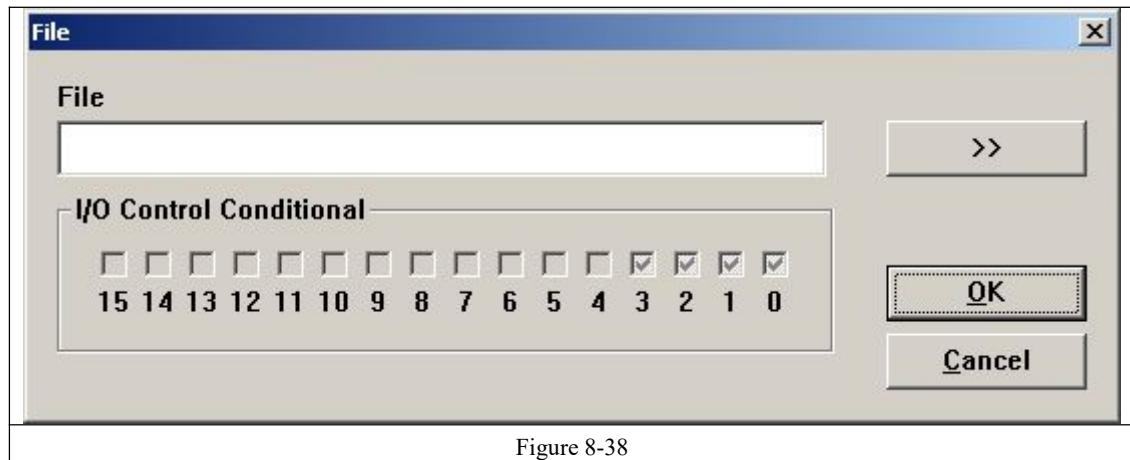

Figure 8-38
**Add:** Add .ezd files. The dialog box pops up as Figure 8-38 after click “add” button. Setting I/O control conditional for files, and automatically mark files when board accept the IO signal in mark status.
If must the accepting signals be pulse signals, should set IO port that doesn't show in figure 8-38 in start mark IO. For example, port 0-3 show in figure 8-38, should set other port in start mark IO, as port 6. Press mark , then pop up figure8-41. When the board accept the start mark IO and setting IO control conditional at the same time, the files will be marked only one time.